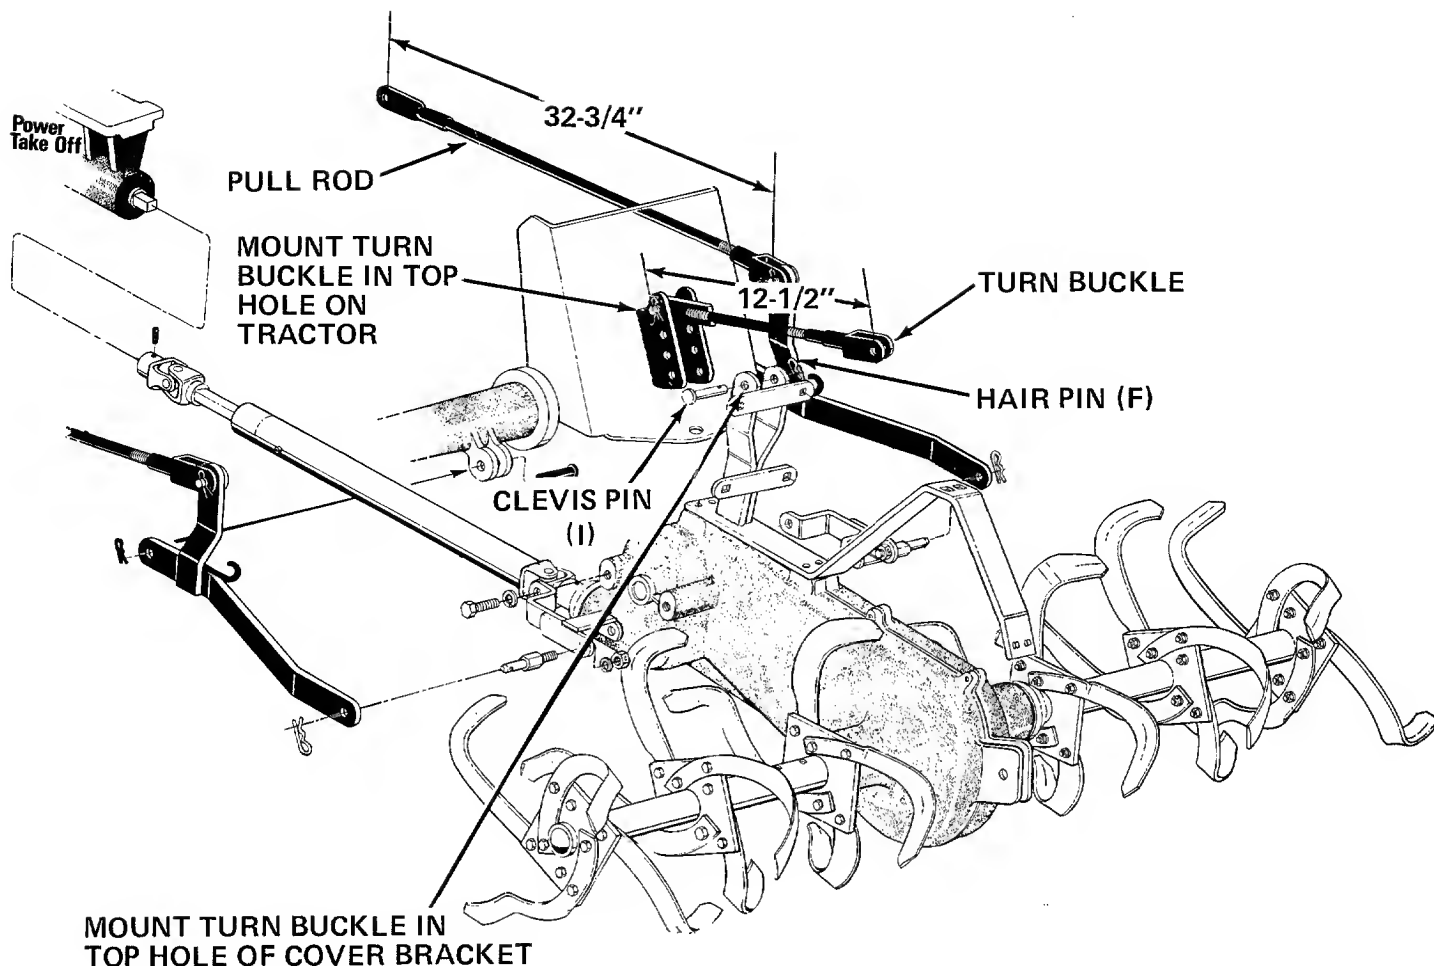

FIGURE 13
8. Slide the tiller forward so the universal drive shaft can be attached to the P.T.O. shaft. See figure 13.
9. Slide end of universal drive shaft over end of P.T.O. shaft and secure with set screws. See figure 13.
10. Preset the pull rods on the tractor, so you have 32-3/4 inches from hole center to hole center. See figure 13.
11. Preset turn buckle to 12-1/2 inches as shown. See figure 13.
12. Assemble turn buckle to tractor using the top hole of bracket on tractor. See figure 13.
13. Assemble other end of turn buckle to tiller cover bracket, using the top hole. Secure with clevis pin (I) and hair pin (F). See figure 13.
The dimensions shown in figure 13 will allow approximately seven inches of tilling depth, and approximately five inches of ground clearance.
The dimensions given under adjustments and in figure 13, may also vary depending upon soil conditions.